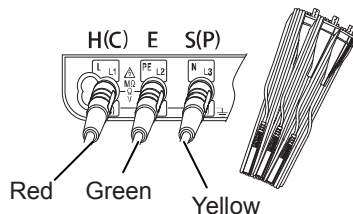

Fig. 41
2. Insert the Test Leads (Model7228: Optional Accessory) into the instrument. (Fig.41)